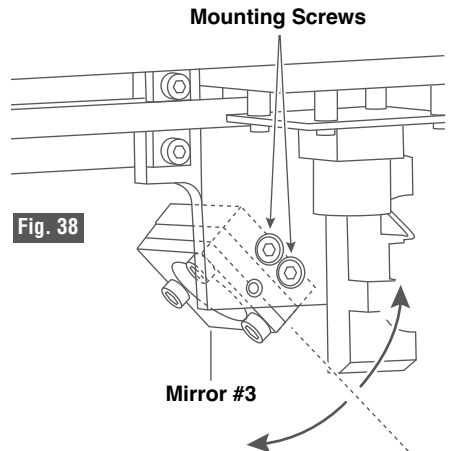

Fig. 38
d. Loosen the two Mirror #3 mounting screws (Fig. 38) enough to rotate the lens in the direction of the missing spot. While holding the lens, retighten. The screws tend to rotate the mirror in the direction of tightening.